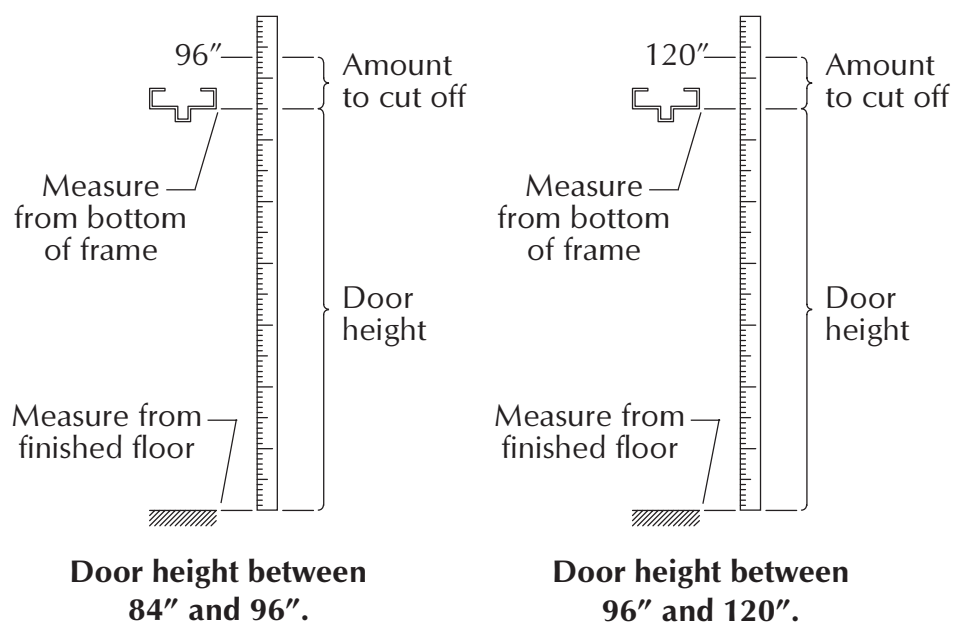

Figure 9-1
9.1. Find amount to cut off rod extension (Figure 9-1).